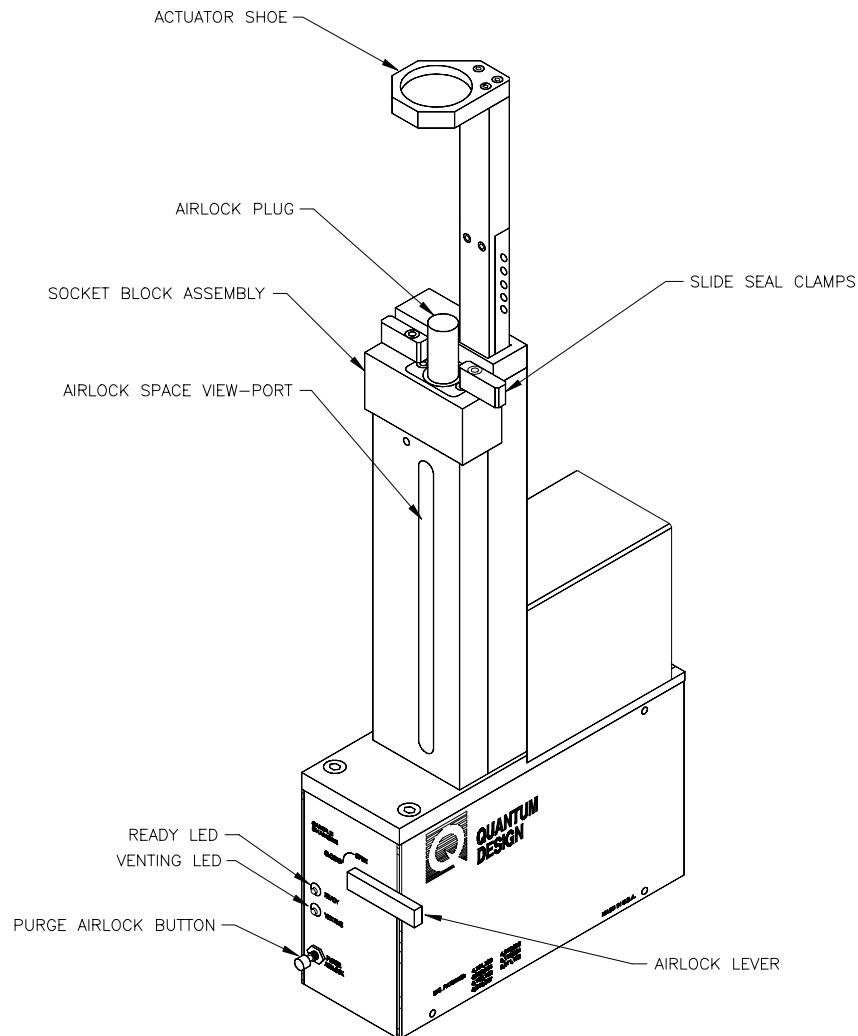

Figure 3-2. Sample Transport and Electronic Control Assembly
1. Turn the airlock lever on the electronic control assembly counterclockwise so that it is horizontal and in the “Closed” position (see figure 3-2). The MPMS vents the airlock space, which is the portion of the sample chamber located above the airlock valve.
2. Wait for the MPMS to vent the airlock space. The yellow “Venting” LED (figure 3-2) flashes on and off while the system vents the space and remains off when the space is vented. The green “Ready” LED does *not* turn on.
3. Push the two slide seal clamps on the socket block assembly (see figures 3-2 and 3-3) so that the handles of the clamps face the front of the MPMS. When the clamp handles face the front of the MPMS, the airlock plug is unlocked and may be removed from the opening of the airlock space.
11. Press the “Purge Airlock” button on the electronic control assembly (see figure 3-2). The MPMS purges the airlock space and cycles through the purge sequence four times. The yellow “Venting” LED turns on during the purge.
14. Lower the sample rod gently and slowly until the black slide clamp on the rod engages the actuator shoe on top of the sample transport. Figure 3-2 illustrates the actuator shoe. When the slide clamp engages the actuator shoe, the rod is fully inserted into the sample chamber.